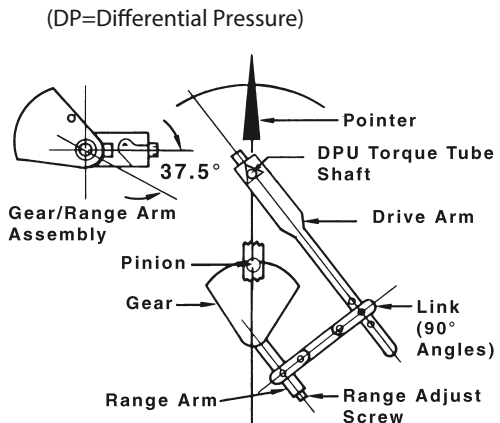

Figure 3-4. Range/Linearity Adj. (50% DP)
2. Align linkage between drive arm and movement, per Figure 3-4.